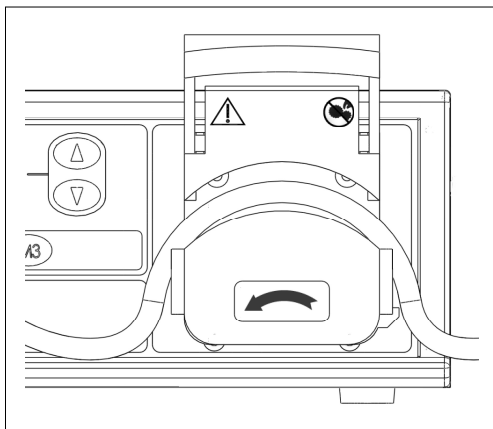
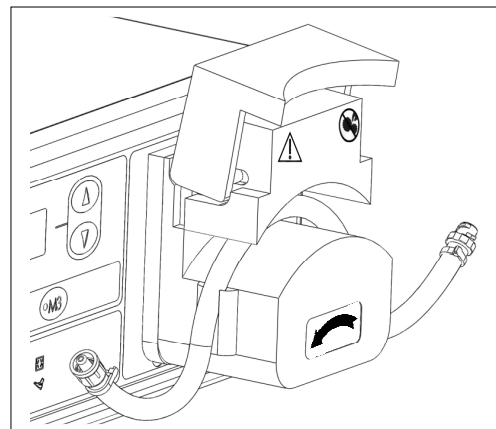

Fig. 7.1: Protective cover in opened position with inserted pump tube (front view)
Fig. 7.2: Protective cover in opened position with inserted pump tube (side view)
- 2) Slide the pump tube into the open pump head as shown in fig. 7.1 and fig. 7.2. The pump tube must not be twisted or stretched against the rollers.